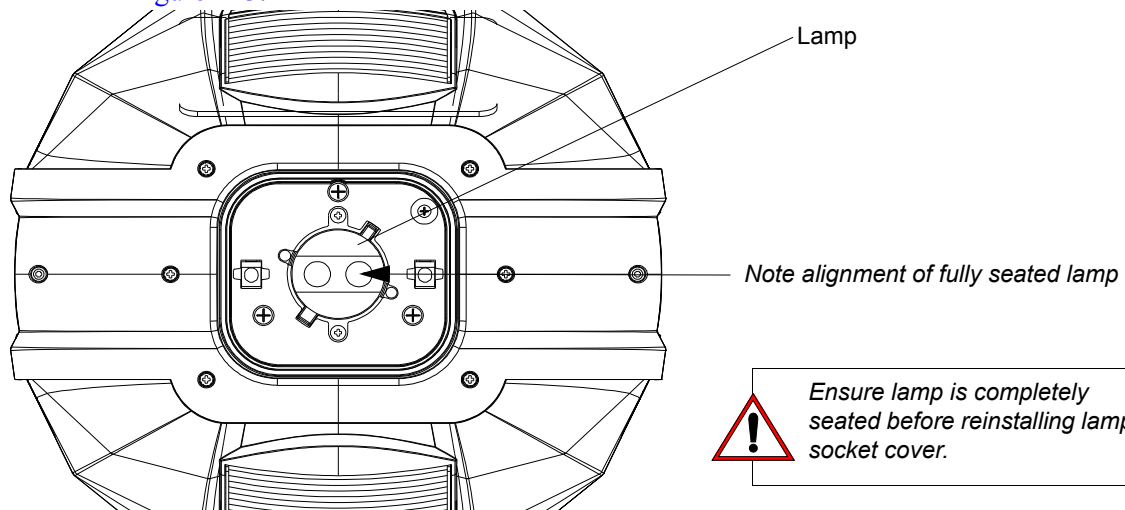

Figure A-3: Installed Lamp
Step 9. Turn lamp clockwise to seat lamp into socket. Lamp base should be aligned as illustrated in Figure A-3.